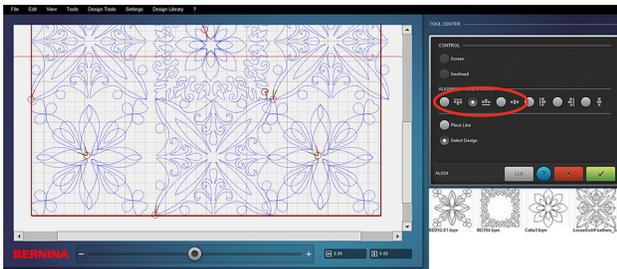

Fig. 78
5. The Place Line option is active. Place a line at the very bottom of the quilt grid layout (Fig. 78). You may place the line as many times as needed.